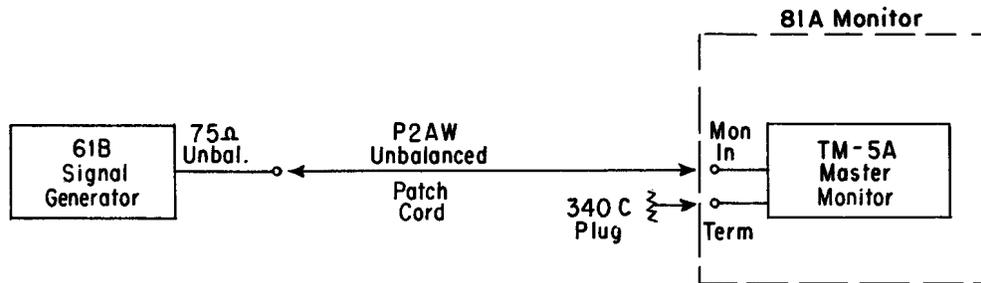

Fig. 6 - Equipment Arrangement for the Calibration Circuit Voltage Adjustment
(1) Set the signal generator for 75-OHM UNBAL SINE WAVE OUTPUT, 0 db output level and 100-kilocycle frequency.
(2) Terminate the monitor input with a 340C plug (75 ohms).
(3) Connect the signal generator and TM-5A monitor as illustrated in Fig. 6.
- (15) Connect the signal generator and monitor as illustrated in Fig. 6.
- (16) Turn the power ON and allow a 15-minute warmup period.
- (17) Adjust the CRO VERT GAIN control (R104) for an accurate two-inch peak-to-peak vertical deflection on the screen.
- (18) Maintaining the same signal generator output level set the signal generator for 1.5 megacycles and adjust the bottom of T101 for a vertical deflection as close as possible to that measured in step (17).
- (19) Set the signal generator to 4 megacycles at 0 db and adjust the top of T101 for a vertical deflection as close as possible to that measured in step (17).
- (20) Follow steps (7) and (8) of Paragraph 4.17 for a final frequency run.
- (21) Check the IRE roll-off characteristic as described in Paragraphs 4.19 and 4.20.
- (1) Set the TM-5A monitor switch (S2) at VERTICAL, insert the 340B plug into the TERM jack and operate the CALIBRATE-OSCILLOSCOPE switch (S3) to OSCILLOSCOPE.
- (2) Connect the 61B signal generator and TM-5A monitor as shown in Fig. 6.
- (3) Set the 61B signal generator to 75-OHM UNBAL SINE WAVE OUTPUT, +3 db output level and 100-kilocycle frequency.